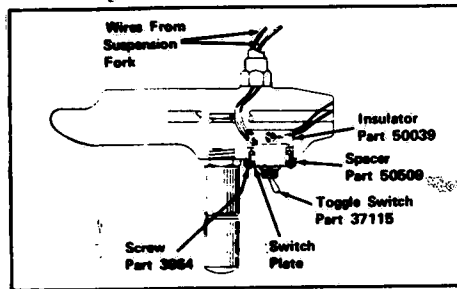

Figure 4-1. REPLACING SPST POWER SWITCH.
3. Cut the supply wire that runs directly from suspension fork to lighthead. Connect both supply line wires to one side of new DPST switch as shown in Figure 4-1.